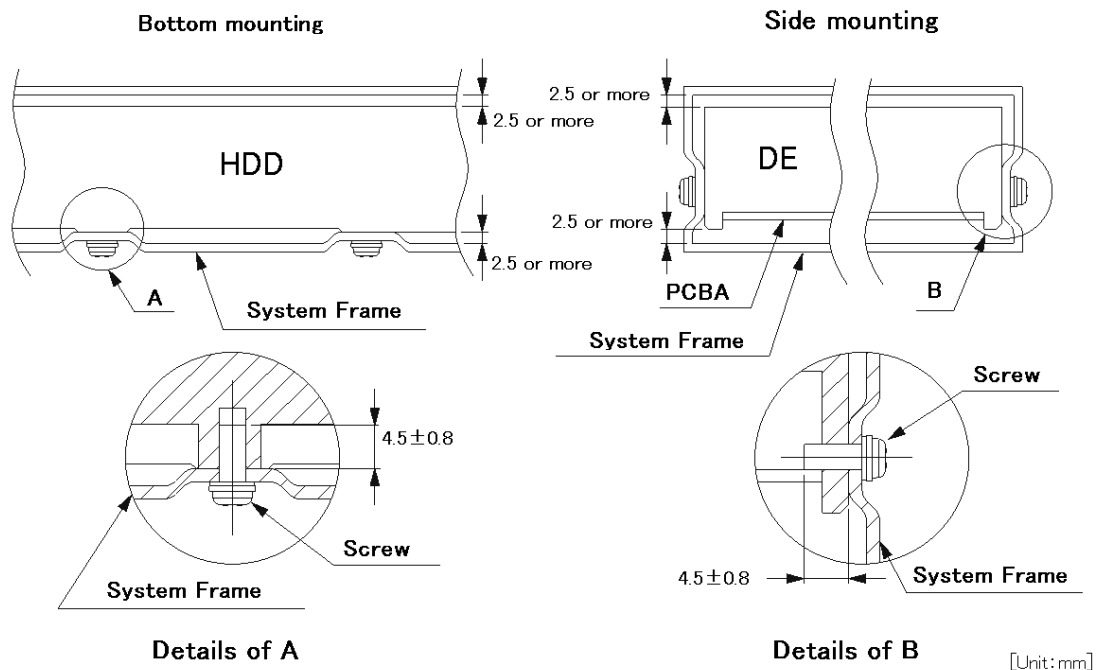

Figure 4.3 Mounting frame structure example
- b) As shown in Figure 4.3, the inward projection of the screw from the HDD frame wall at the corner must be $4.5 \text{ mm} \pm 0.8 \text{ mm}$.